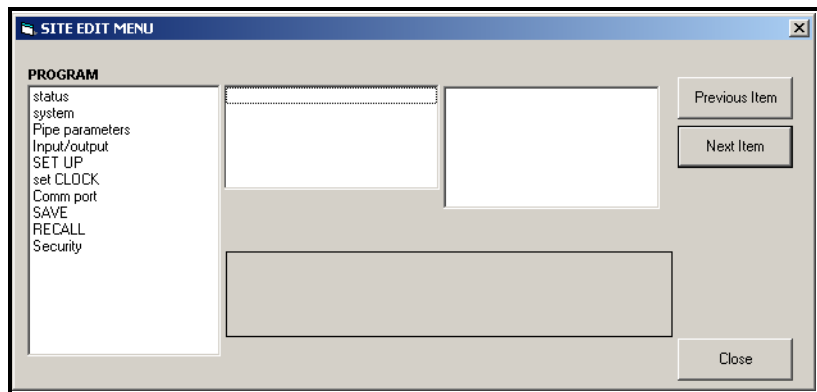

Figure 20: The *Site Edit Menu* Window
5. To open a particular menu, double-click on that menu on the tree. For example, if you double-click on the Site Edit Menu, a window opens similar to Figure 20 below.